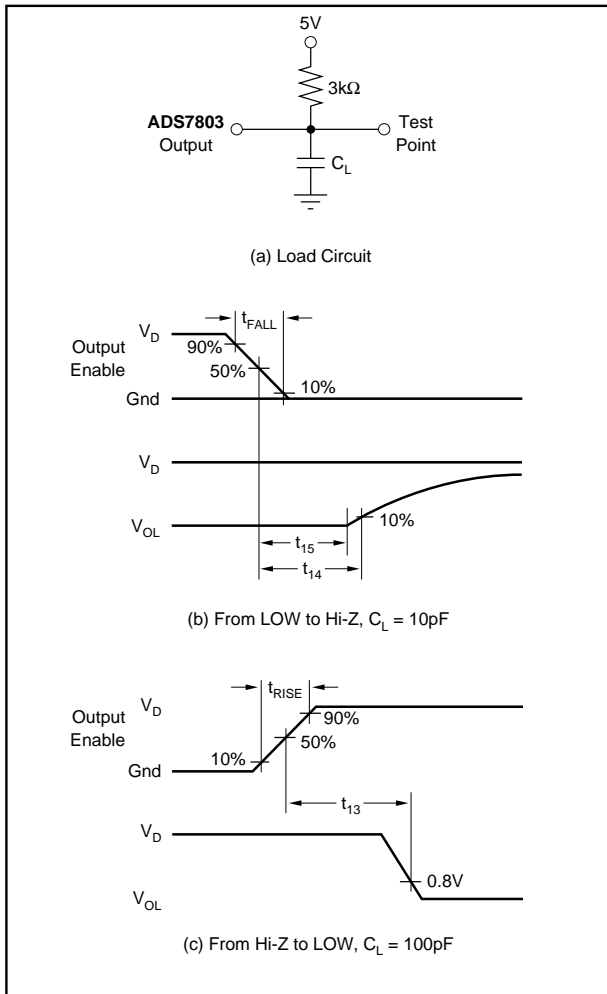

FIGURE 8. Measuring Active LOW to/from Hi-Z State.
NOTES: (1) All input control signals are specified with $t_{\text{RISE}} = t_{\text{FALL}} = 20\text{ns}$ (10% to 90% of 5V) and timed from a voltage level of 1.6V. Data is timed from V_{IH} , V_{IL} , V_{OH} or V_{OL} . (2) The internal RD pulse is performed by a NOR wiring of $\overline{\text{CS}}$ and RD. The internal WR pulse is performed by a NOR wiring of $\overline{\text{CS}}$ and WR. (3) Figures 8 and 9 show the measurement circuits and pulse diagrams for testing transitions to and from Hi-Z states.